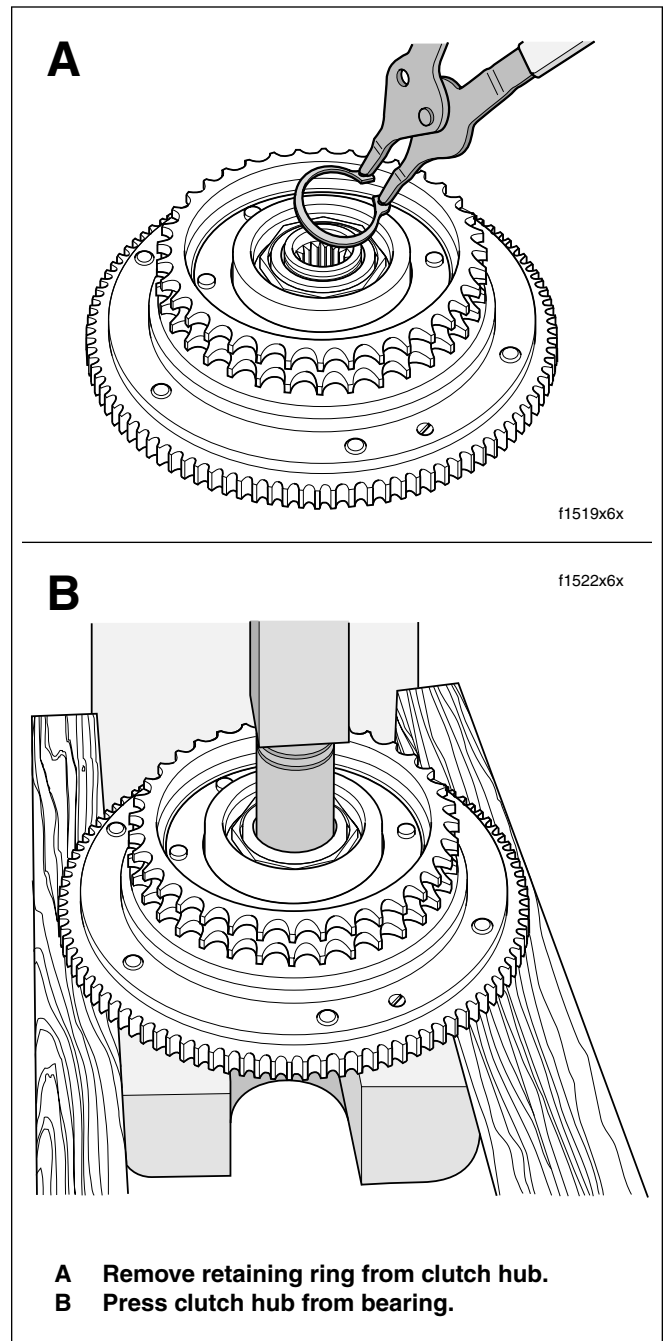

Figure 6-4. Remove Clutch Hub from Clutch Shell
5. With the sprocket side up, remove retaining ring from clutch hub groove. See upper frame of Figure 6-4.
6. Supporting clutch shell in same orientation, use arbor press and a suitable press plug to press hub from bearing in clutch shell. See lower frame of Figure 6-4.